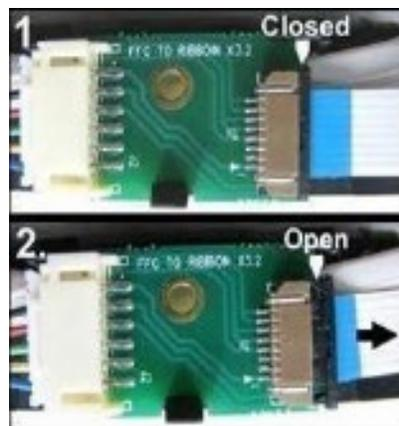

Figure 3, Unlocking & Locking Ribbon Cable
- 6) At this time the goal post sensors have been cleaned. Connect the service station back to the ribbon cable and insert the service tray back into the service channel (**Figure 3**).